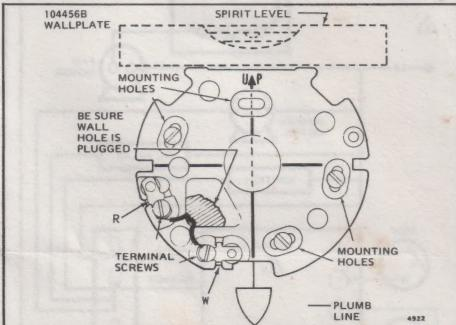

Fig. 1—Level wall plate before mounting T87F.
1. Use plumb line or spirit level to accurately level the wall plate or subbase as in Fig. 1. Inaccurate leveling may cause thermostat control deviation.
3. Level according to Fig. 1, then tighten the screws.